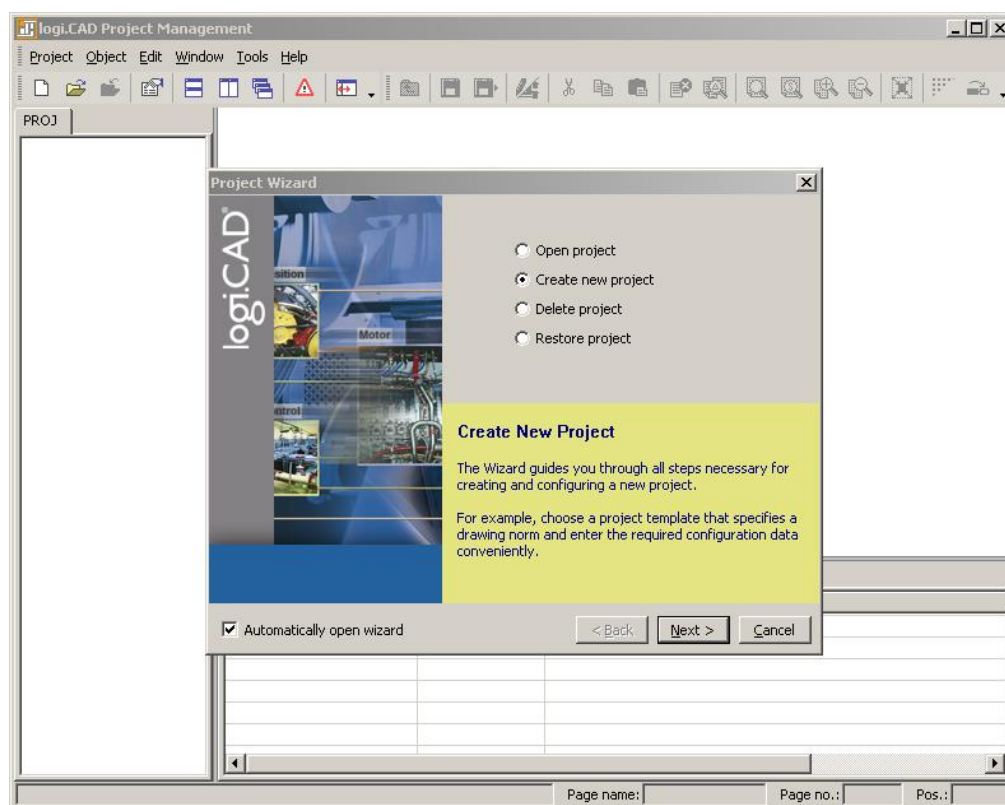

Figure 33: logiCAD project wizard
2. The project wizard starts automatically as shown in Figure 33.